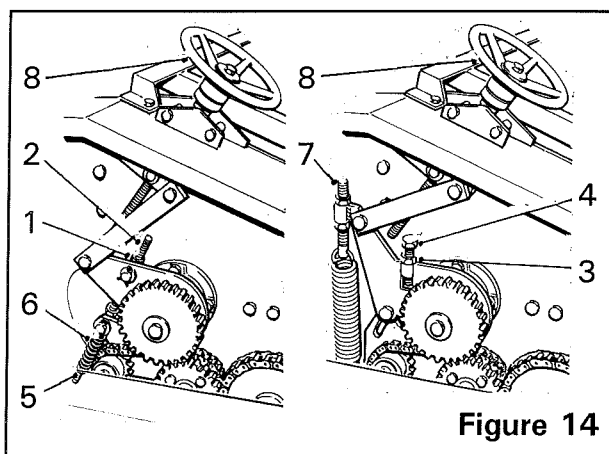

Figure 14
To increase/decrease the gap between the haulm roller and digger web, on early machines, release the locknut (*item 1, figure 14*) and turn the hexagon on the spring rod (*item 2, figure 14*). On later machines, release the locknut (*item 3, figure 14*) and turn the setscrew (*item 4, figure 14*). Care must be taken to set the gap equally on both sides. Do not attempt to close the gap too much or the web joiner may foul the haulm roller causing damage to both.
To increase/decrease the haulm roller spring tension, on early machines, turn the spring nut (*item 5, figure 14*). Adjust both sides evenly and check the setting by measuring the compressed length of the springs (*item 6, figure 14*). On later machines, adjust the setting of the spring tensioner (*item 7, figure 14*). Adjust both sides evenly and check the setting by measuring the length of exposed thread on the spring tensioners.
Rotating the position of the haulm roller relative to the digger web alters the amount of material the roller removes. The roller position can be altered by turning the handwheel/s (*item 8, figure 14*).